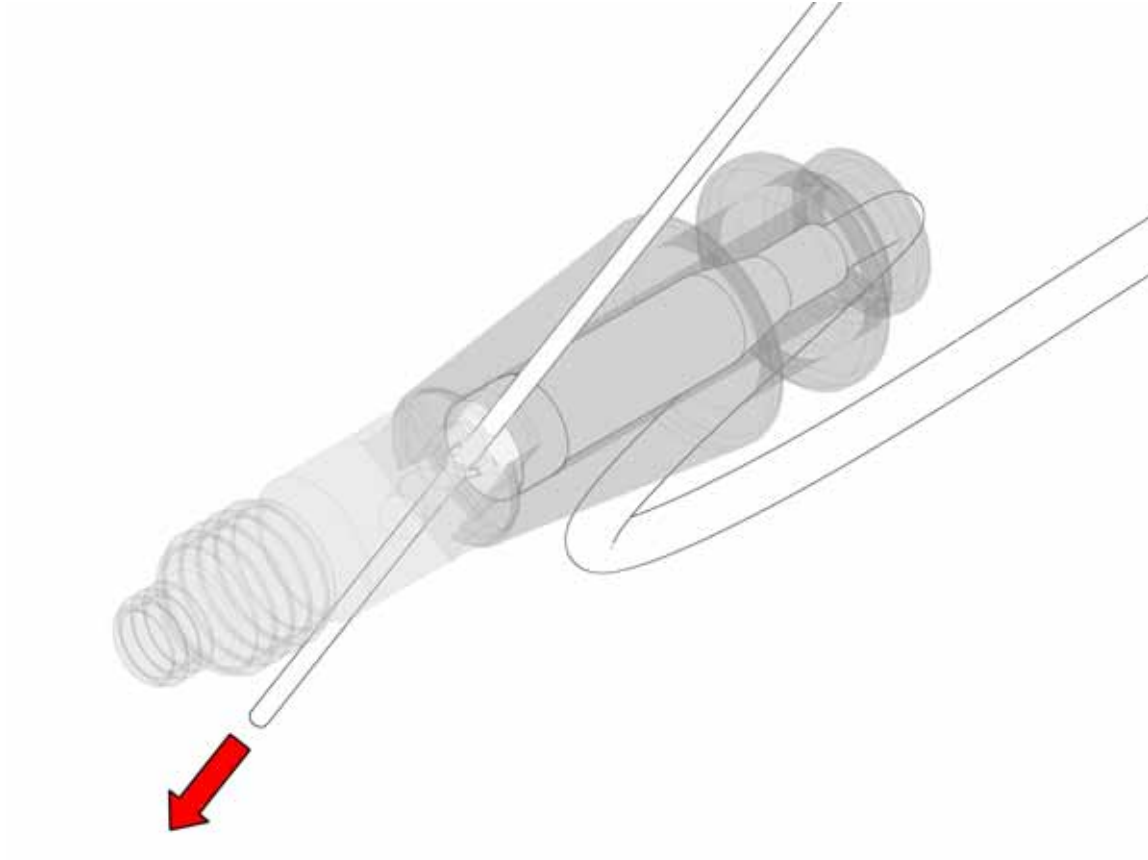

Figure 2-14 Feeding the monofilament.
3. Feed a long sharpened piece of monofilament through the small hole in the threaded stud, under the wire loop, and out of the other side of the threaded stud. Pull the monofilament through until it stops at the cut end (Figure 2-14).